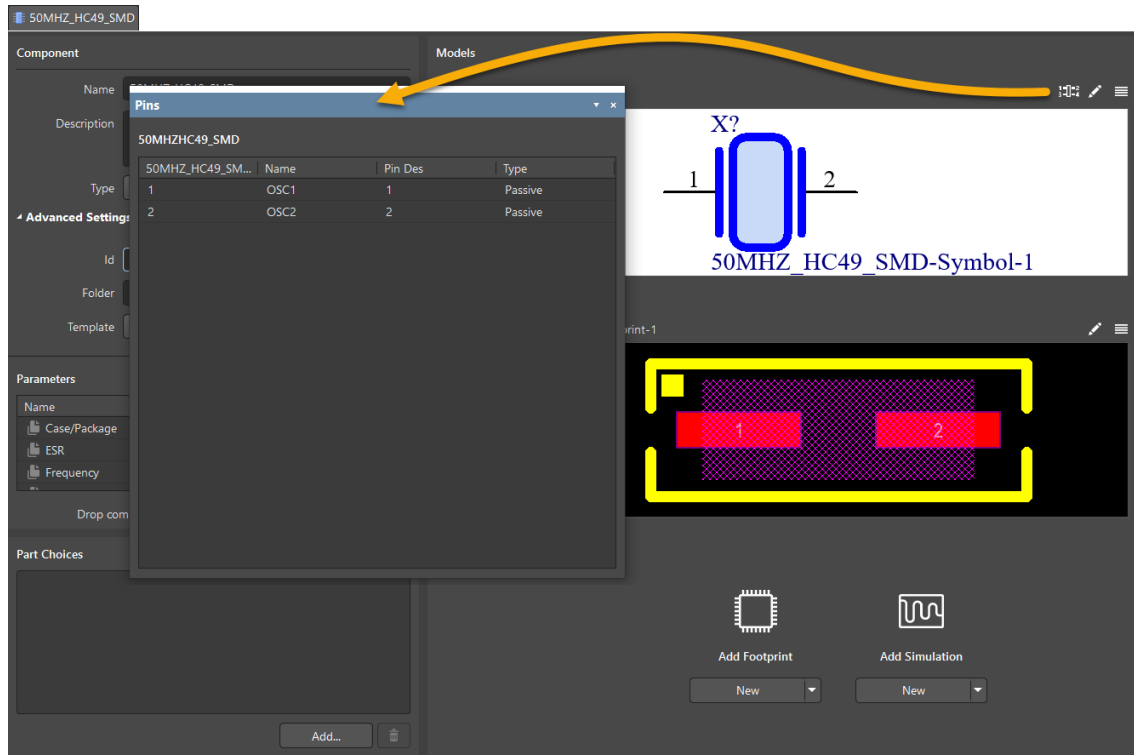

Figure 47. Pin Mapping
75. Select the **Edit Pin Mapping** command , as seen in Figure 47.